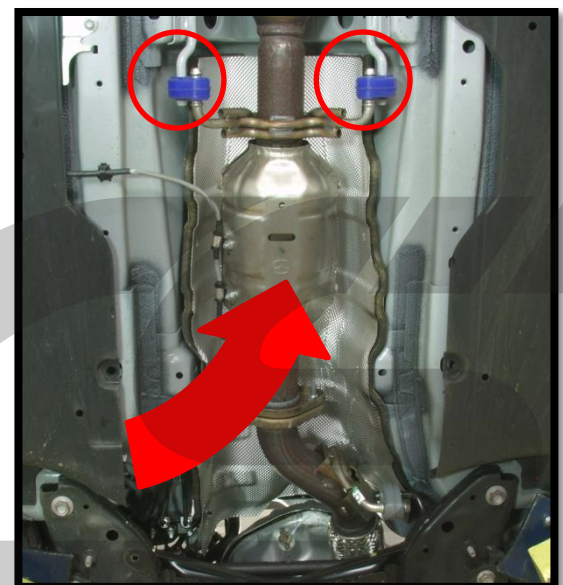

Figure 3e
- d) Lubricate the two (2) blue rubber hangers with WD-40 and pull the exhaust free from the vehicle (Figure 3e).